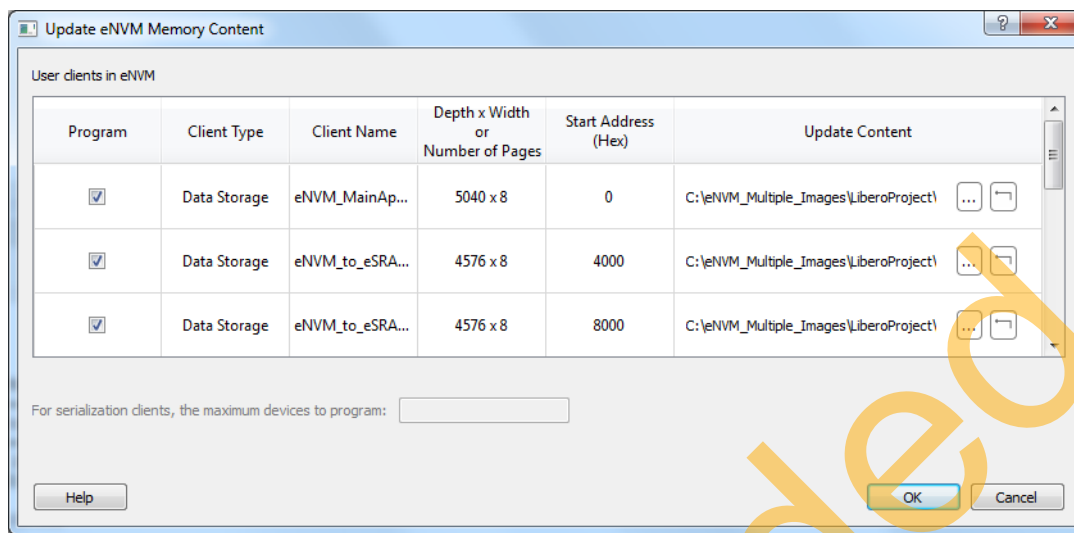
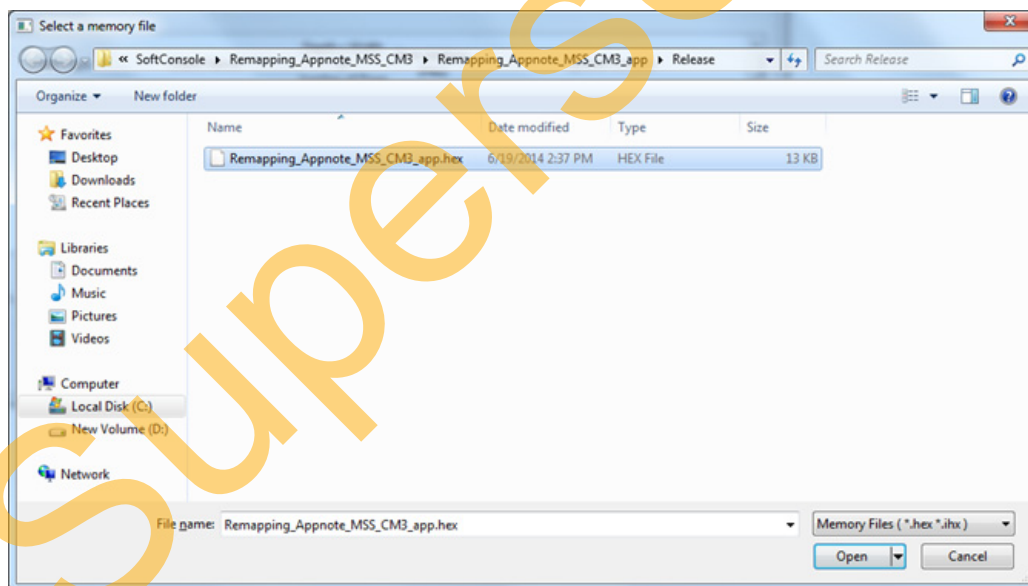

Figure 49 • Update eNVM Memory Content Window
Figure 50 • Browsing through Updated Hex File
2. Update **eNVM Memory Content** window as shown in Figure 49.
3. Click **Update Content** (see Figure 49) and browse through the updated .hex file (see Figure 50 on page 42). Click **Ok**.